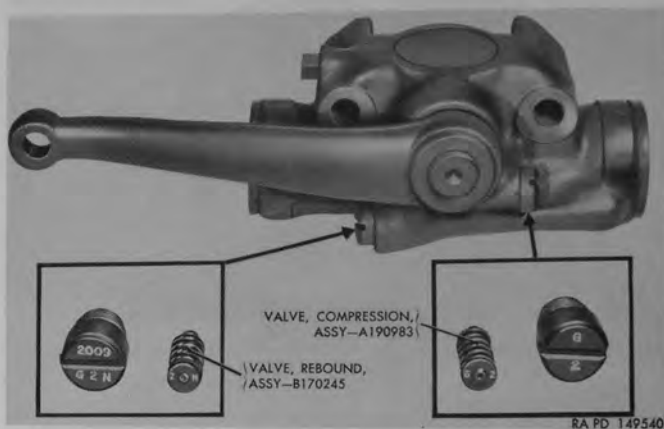

Figure 213. Shock absorber valve identification.
d. Rebound and compression valves, which control the flow of fluid in the shock absorber, are installed in drilled passages in the shock absorber body and retained by nuts with soft aluminum gaskets. Valve identification code numbers are stamped on nuts and on valve washers as shown in figure 213. Valves having the same code number as stamped on the retaining nuts must always be used.
sure valve code stamped on outer spring retainer washer on each valve is the same as the code stamped on the valve nuts (fig. 213).
d. Installation of Rebound and Compression Valves.—Compression valve assembly, marked "G-2" (fig. 213), must be installed in opening opposite the arm end of the shock absorber, and the rebound valve assembly, marked "2 N," in other end. Place each valve assembly in body, making sure guide at inner end of valve enters passage at bottom of valve bore. Secure in place with rebound and compression valve nuts (N) and valve nut gaskets (Q). Nut marked "G 2" must be installed over the compression valve, and nut marked "G 2 N" over the rebound valve. Tighten nuts firmly.